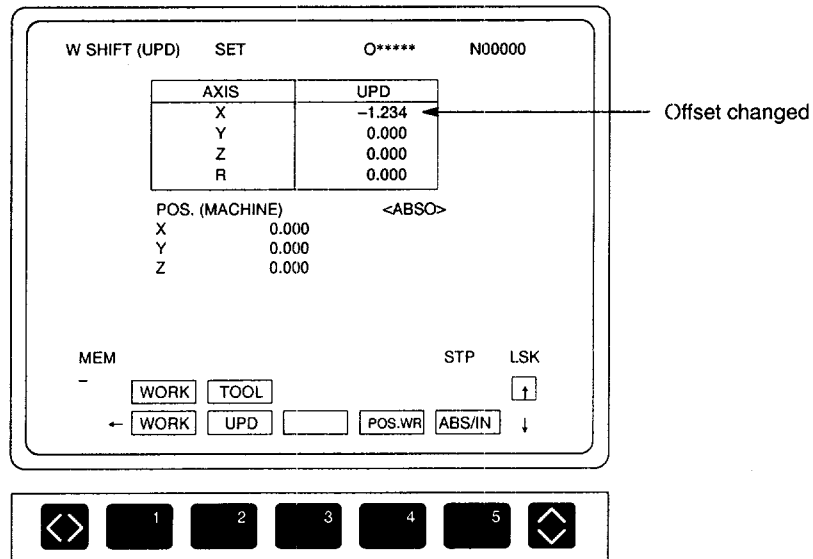

Fig. 5.2 Correction Data Entry Screen
- ① Press the [UPD] (f2) function soft-key.
- ② Move the cursor to the UPD (correction amount) column of the axis for which the workpiece coordinate system shift data should be changed.
- ③ Enter a numerical value (for example, “-1.234”) and press the [WR] key. The screen as shown in Fig. 5.2 is displayed.